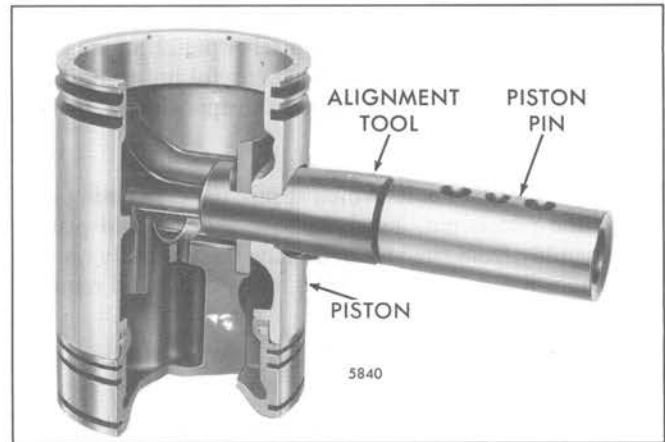

Fig. 8 – Installing Piston Pin
4. Lubricate the piston pin with the *STP*/oil mix and install it as shown in Fig. 8.